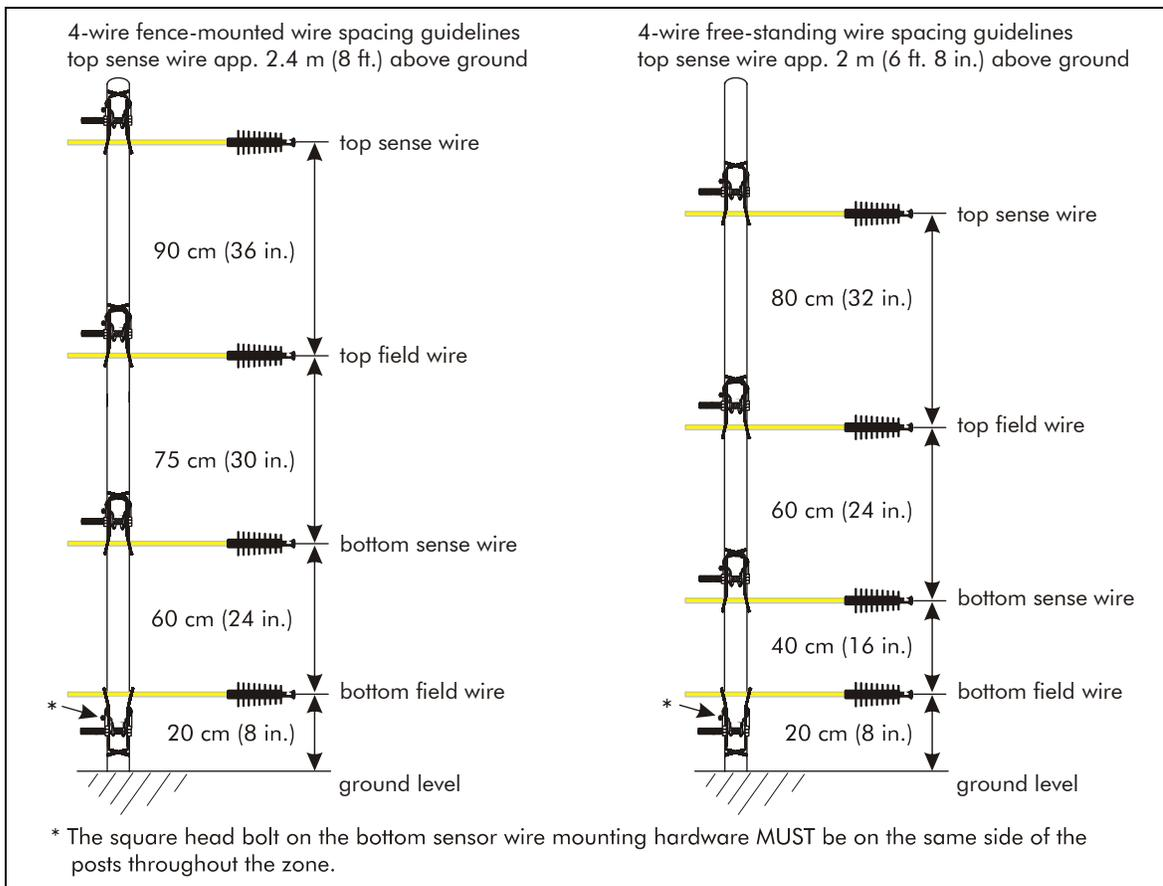

Figure e-6: Hardware installation (4-wire)
- each wire slot is at the correct height for the particular sensor wire (see Figure e-6:)